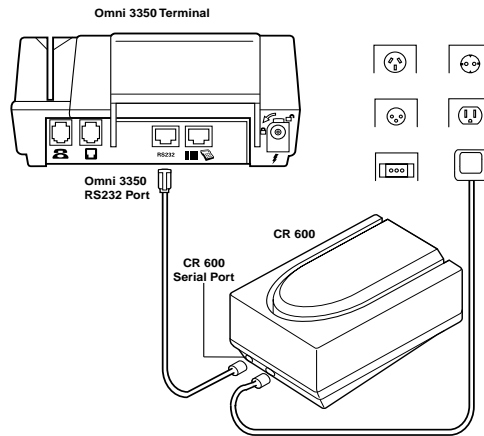

Figure 17 CR 600 Check Reader Connection
1. If the cable is not already connected to the check reader, insert the small modular plug on one end of the cable into the check reader's modular jack (Figure 17).